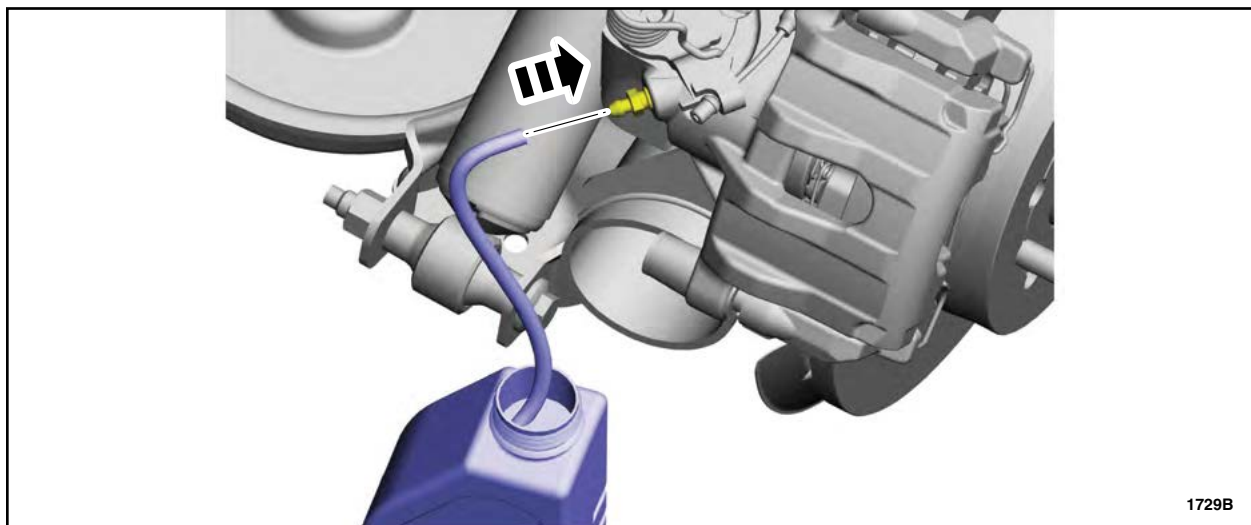

FIGURE 23
5. Remove the brake caliper bleeder screw covers and attach fluid capture reservoirs to all four brake caliper bleeder screws. See Figure 23.